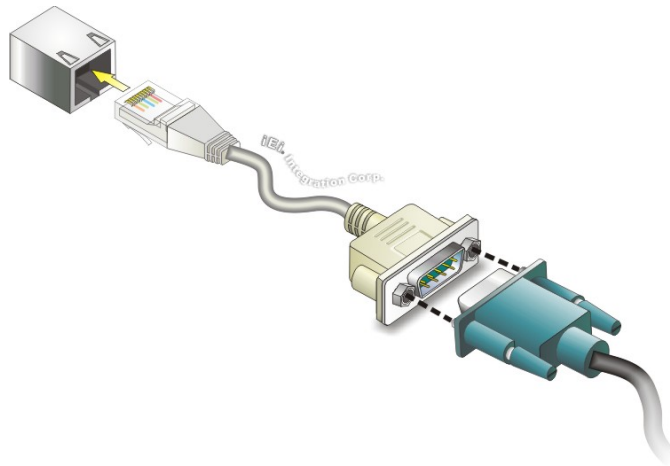

Figure 3-10: Serial Device Connector
Step 3: Insert the serial connector. Insert the D-sub 9 connector of a serial device into the D-sub 9 connector on the cable. See Figure 3-10.